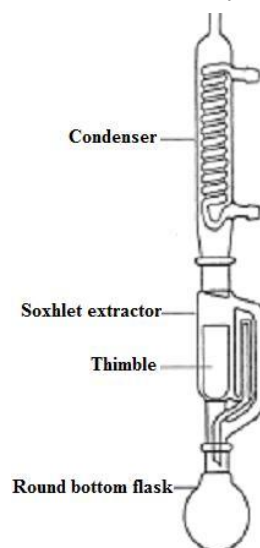

Figure 1: Soxhlet Extraction apparatus
6. Insert the thimble in a Soxhlet liquid/solid extractor (Figure 1).